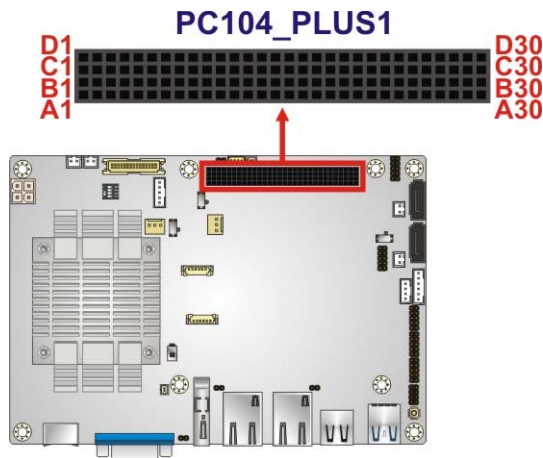

Figure 3-18: PCI-104 Connector Location
- CN Location:** See **Figure 3-18**